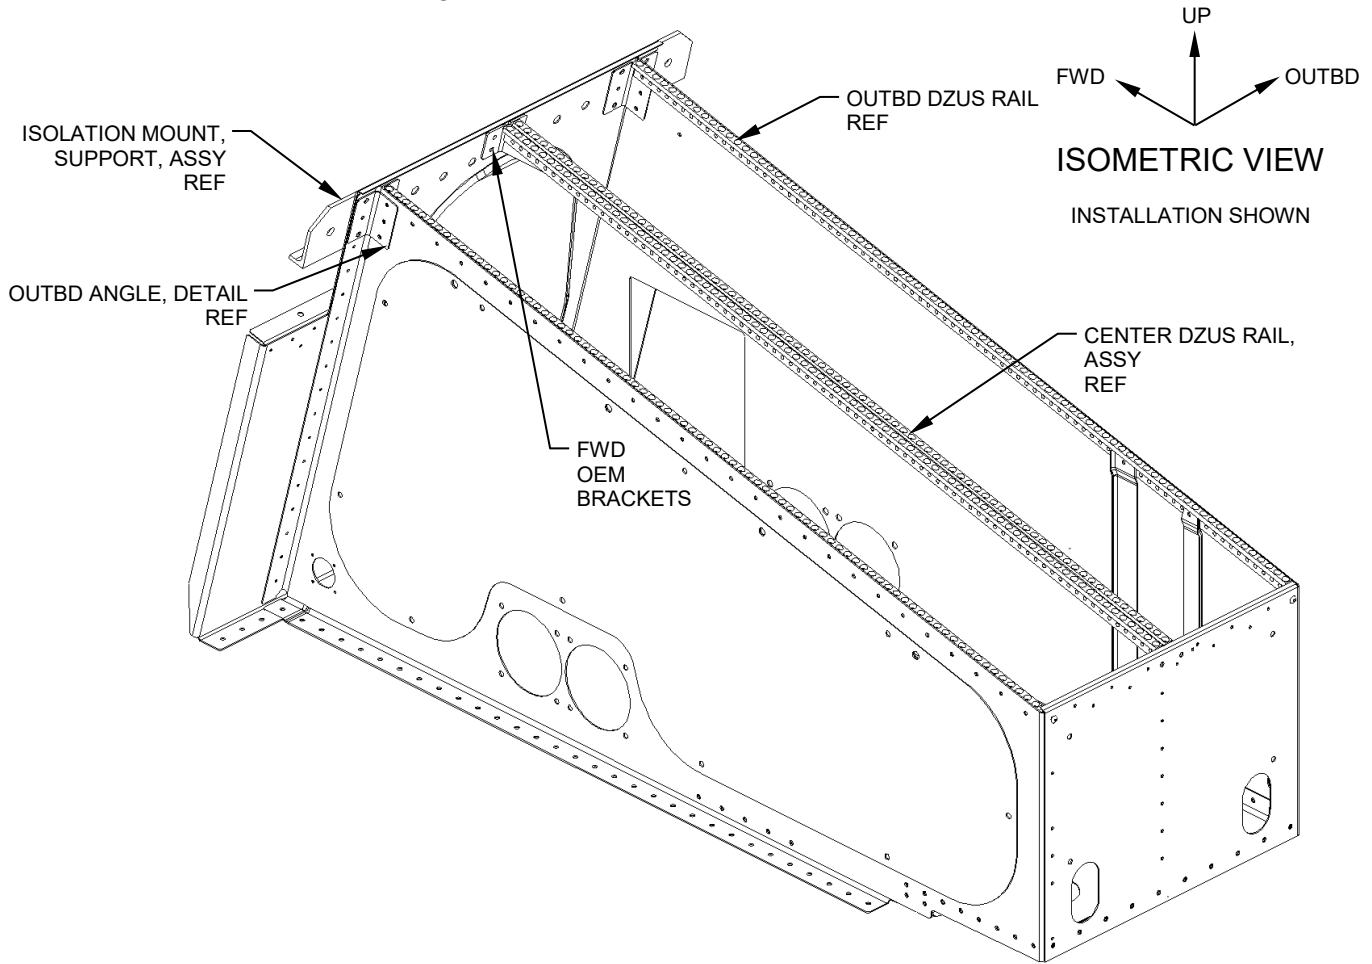

Figure 1
1.1. Gain access to the OEM pedestal. Remove and retain applicable avionics, switch control panels, and the defrost control lever. Remove and discard all avionics that will be replaced. See Figure 1.
1.2. Remove and discard the LHS outboard Dzus rail. Remove and retain the RHS Dzus rail, a section is used as packing material for the OEM fittings towards the AFT end. Remove and discard the center Dzus rail assy and associated aft fittings. See Figures 1 & 2.
1.3. Temporarily install the Filler, Detail, (Item 40), with a cleco. Use the aft side of the filler part to scribe a line on the fwd OEM brackets. Trim the excess material, and remove and retain the Filler, Detail, (Item 40). See Figures 1 & 2.